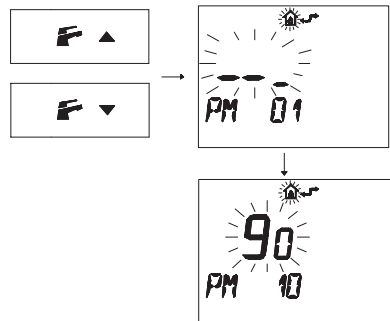

Fig. 7.41
- Press buttons  $\text{F} \blacktriangledown$  or  $\text{F} \blacktriangle$  to display the "PM10" program for selecting the ignition frequency (Fig. 7.41).
In Fig. 7.41 a SET programmed at 90 is displayed corresponding to a re-ignition time of about 3 minutes.